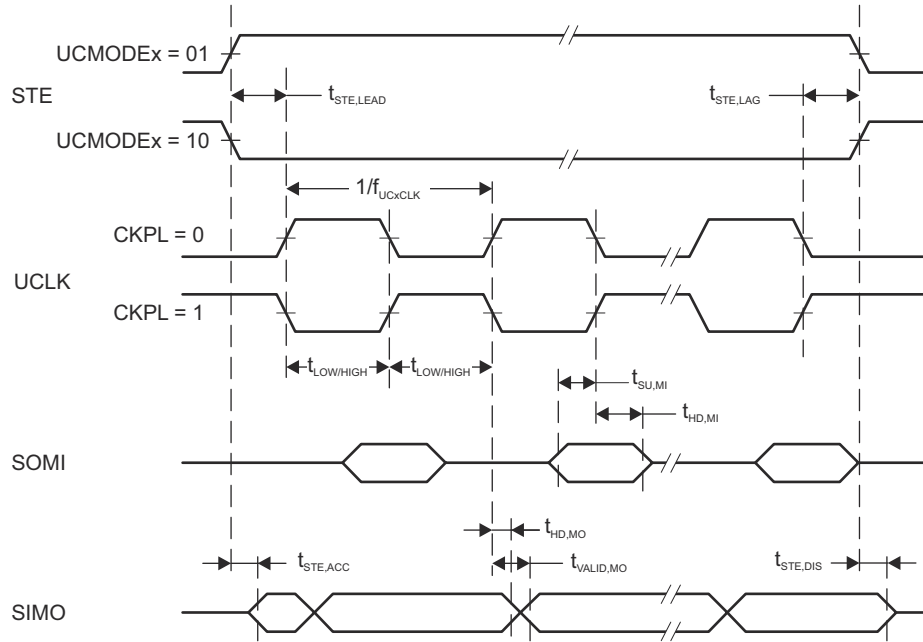
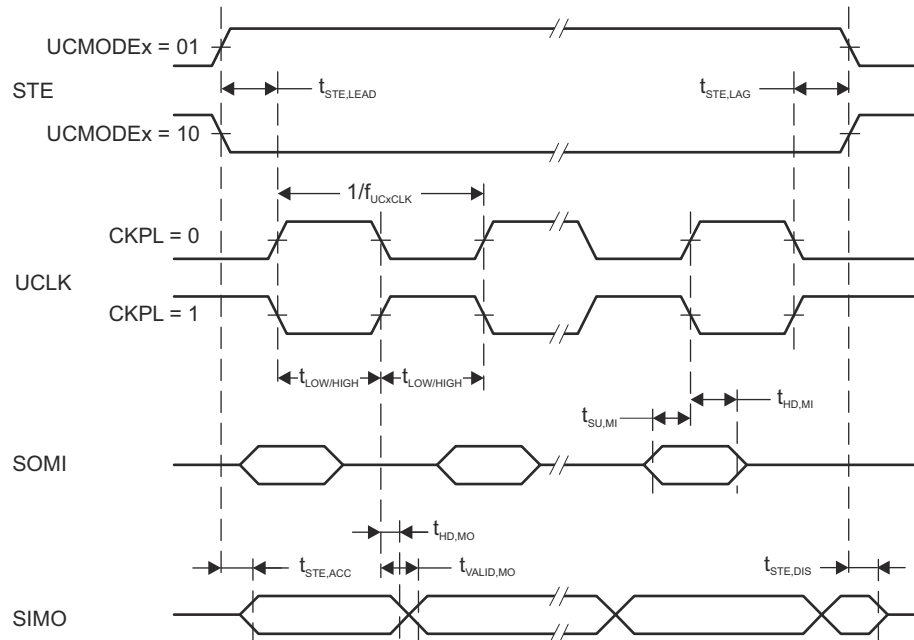

图 8-10. SPI Master Mode, CKPH = 0
图 8-11. SPI Master Mode, CKPH = 1
- (2) Specifies the time to drive the next valid data to the SIMO output after the output changing UCLK clock edge. Refer to the timing diagrams in Figure 8-10 and Figure 8-11.
- (3) Specifies how long data on the SIMO output is valid after the output changing UCLK clock edge. Negative values indicate that the data on the SIMO output can become invalid before the output changing clock edge observed on UCLK. Refer to the timing diagrams in Figure 8-10 and Figure 8-11.